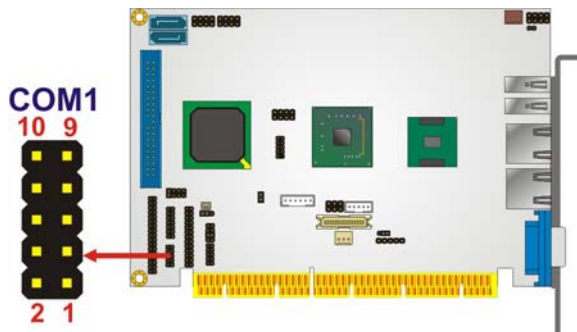

Figure 4-19: RS-232 Connector Pinout Locations
- CN Location:** See **Figure 4-19**